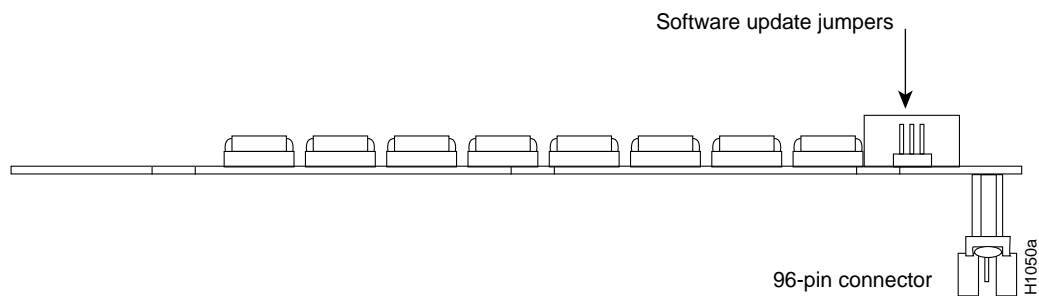

Figure 7 Flash EPROM Card and Connector—Side View
Step 2 Holding the Flash EPROM card by its edges, pull straight up to lift the card out of its connector. (See Figure 7.) The main memory SIMMs will now be exposed.
Step 1 Line up the Flash EPROM card with the 96-pin connector and screw holes. (See Figure 7.)